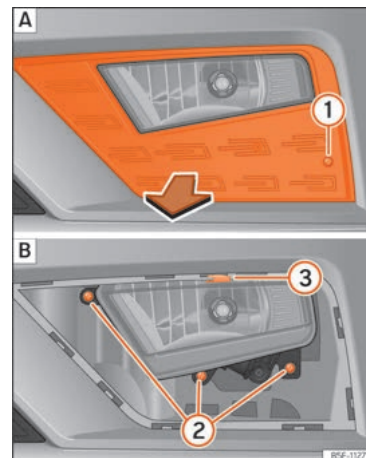
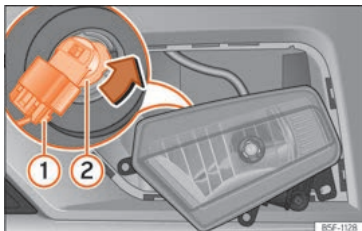

Fig. 113 Fog light: remove the grille
Fig. 114 Fog light: detach the bulb holder
1. Remove the screw » Fig. 113 ① A from the fog light grille using a screwdriver and extract the grille.
2. Remove the 3 screws » Fig. 113 ② B.
3. Remove the metal clip situated on the upper part of the fog light by pulling away from the vehicle ③ B and extract the fog light.
4. Remove the connector » Fig. 114 ① from the bulb.
5. Turn the bulb holder ② anti-clockwise and pull.